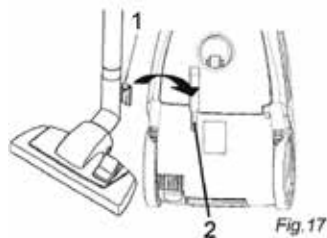

Fig. 17
- To store the vacuum cleaner you can hook the park/storage hook (Fig. 17/1) into the storage (Fig. 17/2) bracket on the bottom of the appliance.